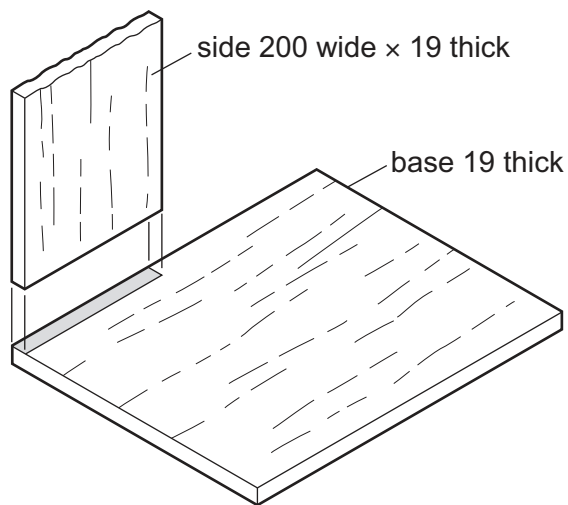

**Figure 11.2**
- (b) The sides of the table could be joined to the table top and base by means of knock-down (KD) fittings or dowel joints. Figure 11.2 shows part of one side and the base.